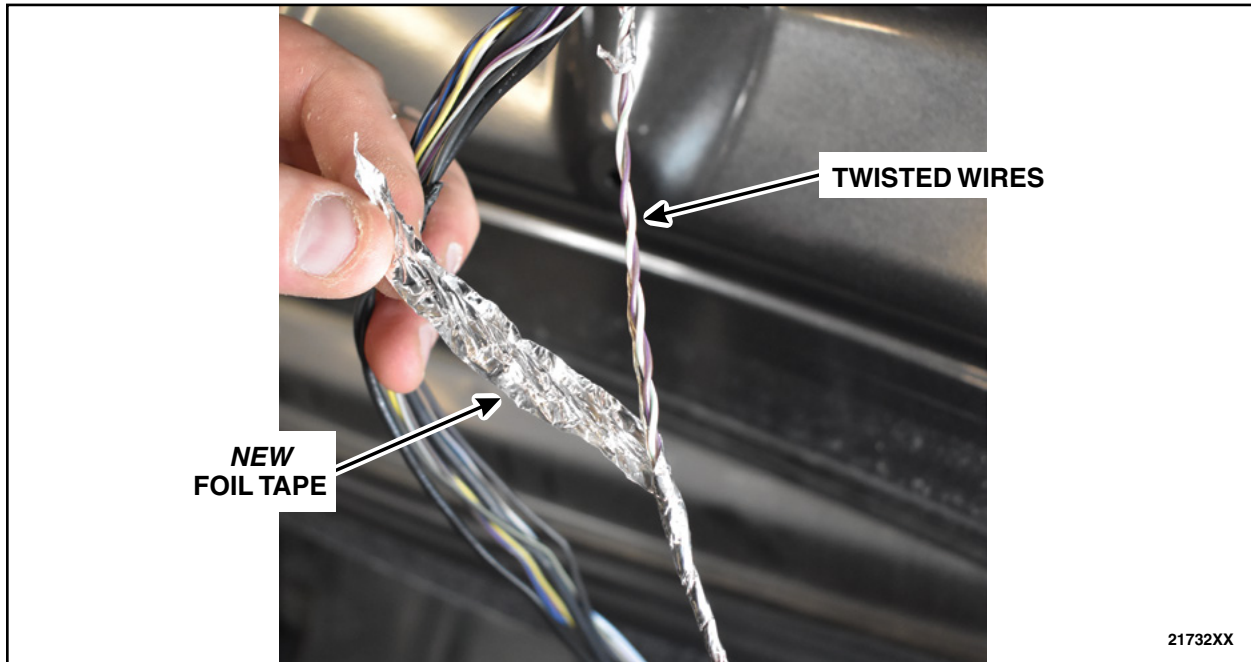

FIGURE 42
61. Wrap the full length of the exposed twisted wires using the **new** foil tape while making sure to properly overlap the wires and have enough tape length. See Figure 42.